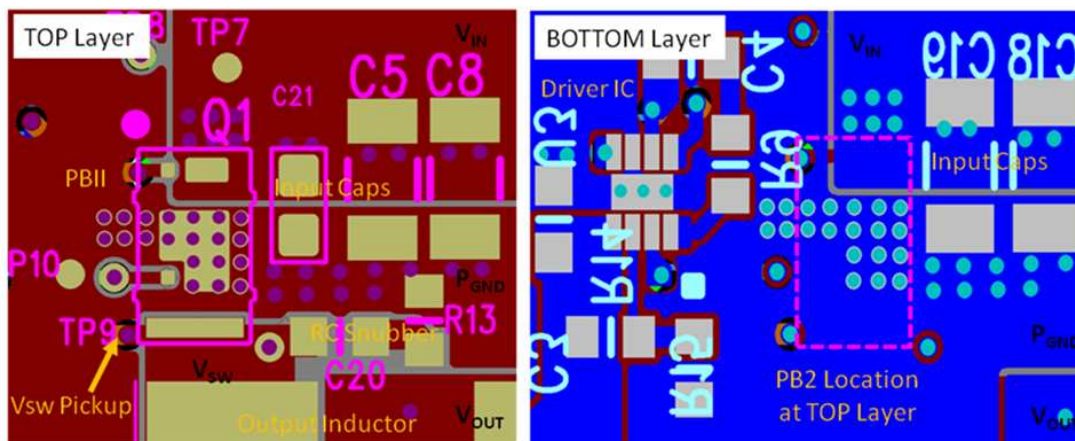

Figure 29. Recommended PCB Layout (Top Down View)
- The placement of the input capacitors relative to VIN and PGND pins of CSD87588N device should have the highest priority during the component placement routine. It is critical to minimize these node lengths. As such, ceramic input capacitors need to be placed as close as possible to the VIN and PGND pins (see Figure 29). The example in Figure 29 uses 1 x 10 nF 0402 25 V and 4 x 10 μ F 1206 25 V ceramic capacitors (TDK part number C3216X5R1C106KT or equivalent). Notice there are ceramic capacitors on both sides of the board with an appropriate amount of vias interconnecting both layers. In terms of priority of placement next to the Power Stage C21, C5, C8, C19, and C18 should follow in order.
- The switching node of the output inductor should be placed relatively close to the Power Block II CSD87588N VSW pins. Minimizing the VSW node length between these two components will reduce the PCB conduction losses and actually reduce the switching noise level. See Figure 29. ⁽¹⁾
- Use the smallest drill size allowed in your design. The example in Figure 29 uses vias with a 10 mil drill hole and a 16 mil capture pad.